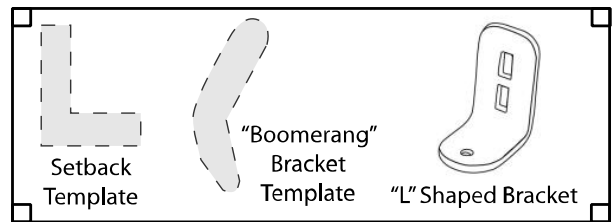

Fig 1
2) Find the proper setback for your operator (from previous page). Hold the lower “L” shaped bracket along with the boomerang bracket template against the post near the hinge. [See Fig. 1]